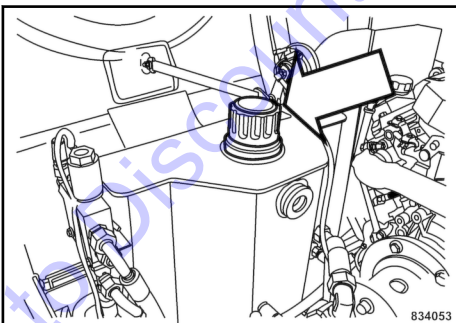

Fig. 155
1. Remove the cap from the hydraulic oil tank ↪ Fig. 155.